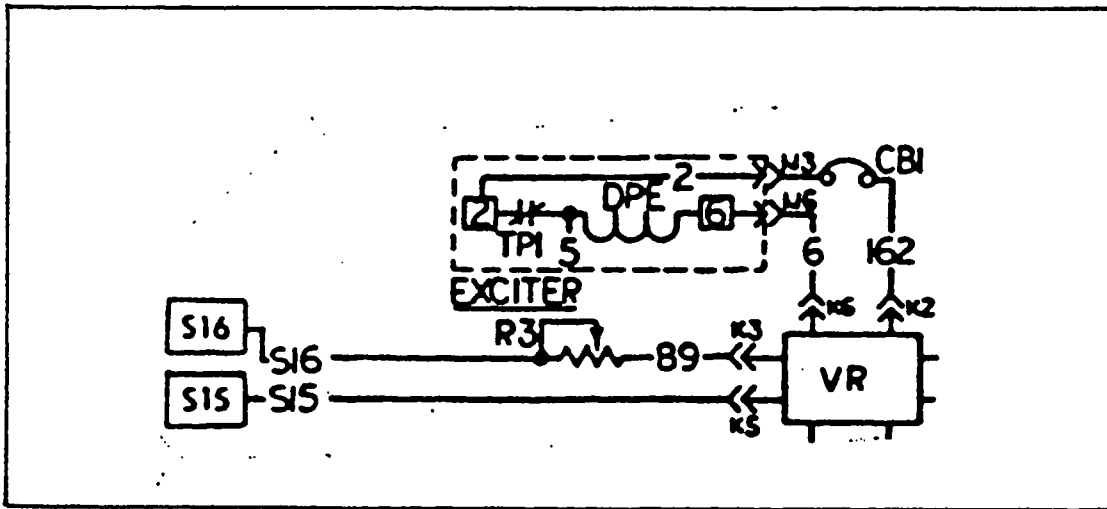

Figure 6.2-C. Voltage Regulator, Sensing and DPE Circuits
**6.2.12- CHECK DPE OUTPUT** (Figure 6.2-C)
**6.2.13- CHECK VOLTAGE ADJUST POTENTIOMETER** (Figure 6.2-C)
**6.2.14- CHECK SENSING LEADS** (Figure 6.2-C)